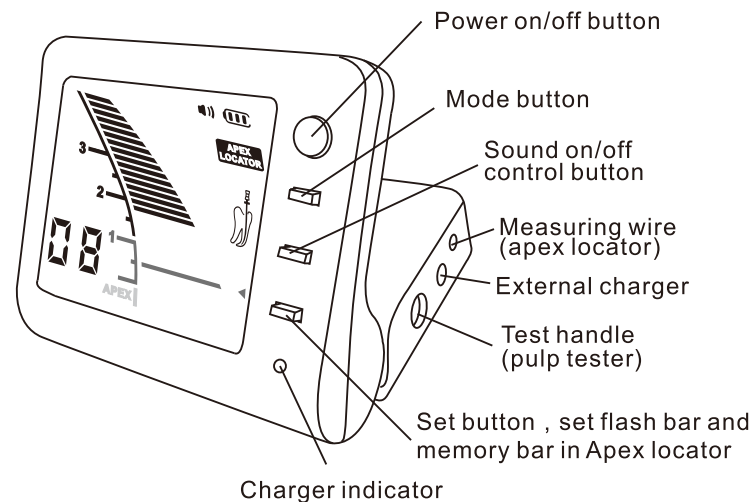

Fig.1
Congratulations on the purchase of C-Root I (VI), as an apex locator which is precise, ergonomic, and able to determine the exact working length in seconds, as a pulp tester which is a wise assistant to judge the pulp vitality. (Fig. 1)